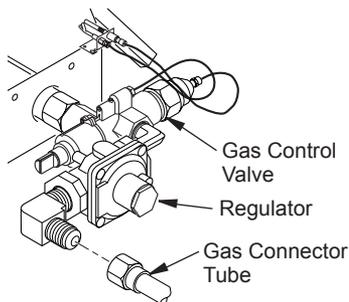

Figure 6 - Installing Inlet Fitting and Gas Connector Tube (Valve Cover Removed for Clarity)
3. Install gas connector tube to gas supply adapter. Carefully shape tube and attach to gas inlet fitting (see Figure 6). Be careful not to cause kinks in tube.